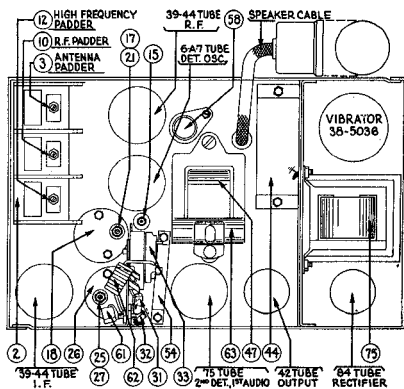

FIG. 2
The padders ④ and ⑤ must be adjusted next. (Figs. 2 and 3.) Turn the adjusting screw ⑥ all the way in. A metal screwdriver can be used for this. Then, with generator attenuator set so there is approximately half-scale reading, adjust the nut ⑦ with a wire wrench for the maximum reading on the output meter.
There are four holes in line, one in each of the sections of the tuning condenser housing. (See Fig. 2.) Place a nail of the size that fits snugly through the holes and then turn the condenser plates out of mesh until they strike against the nail.
If slippage continues, remove the chassis from the cabinet. Turn the knob to the point where the shaft seems to bind. See if the drive shaft set screw is tight, and if the idler and idler spring are in position—See Fig. 2.
Figs. 2 and 3. Rear views of the Wells-Gardner dial assembly.